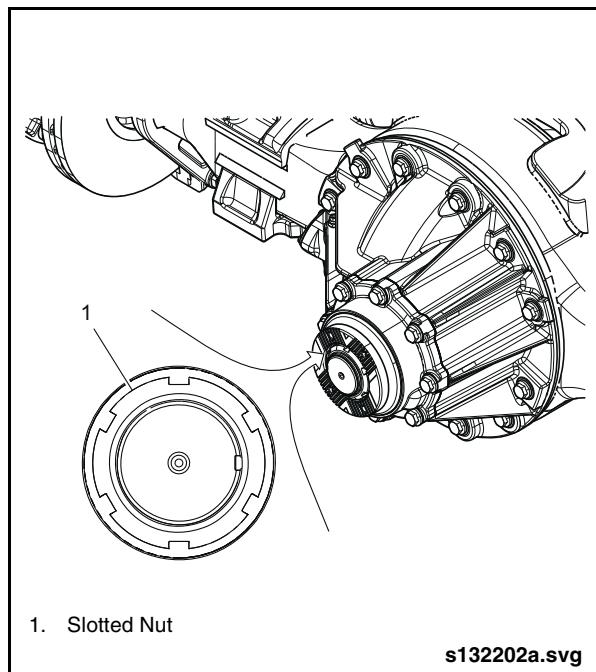

Fig. 2-30: Unlocking Slotted Nut
1. Unlock the slotted nut using a chisel or punch to bend the dimpled metal out of the slot. See "Fig. 2-30: Unlocking Slotted Nut" on page 33.